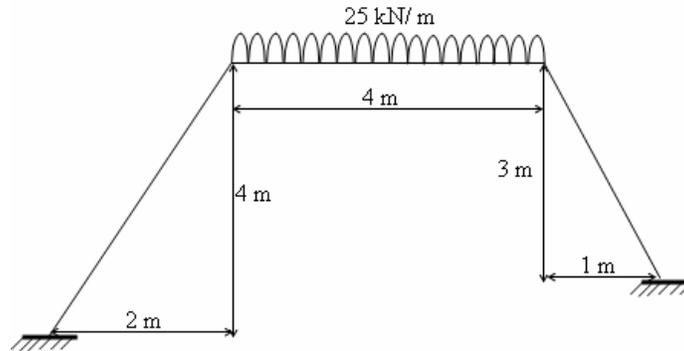

Fig.1
1. Analyze the frame shown in Fig.1, using moment distribution method. [16]